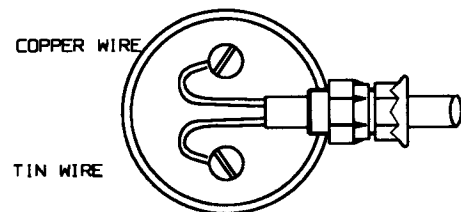

Fig. 3
- Unscrew the cap of the junction box (14).
- Connect following figure 3 below.